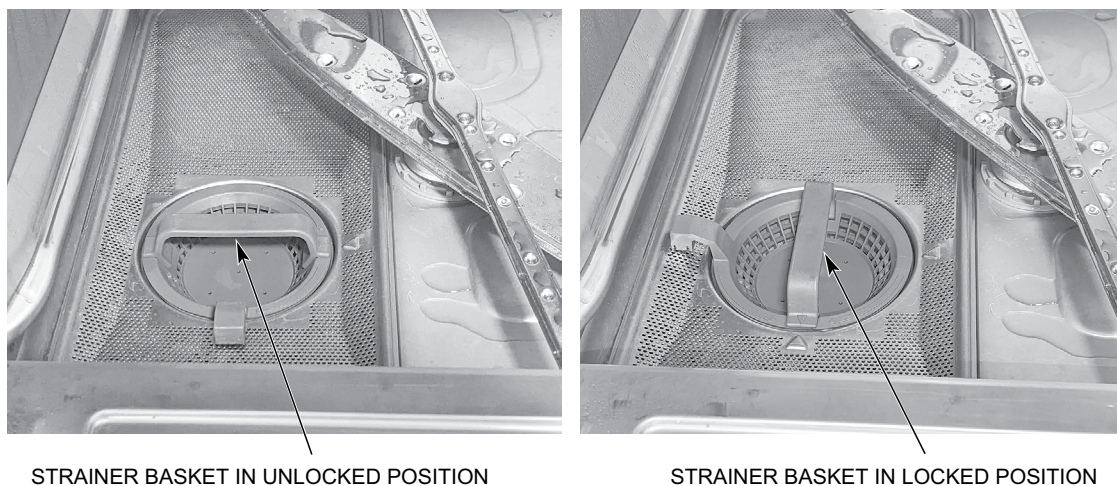

Fig. 6
NOTE: For LXnR, LXGnR and LXGnPR models, when installing the strainer basket, ensure the basket is in the 'locked' position (Fig. 6).
4. Replace the strainer pan and strainer basket in the machine. For LXGnPR models, ensure the basket is in the locked position (page 19, Fig. 6).